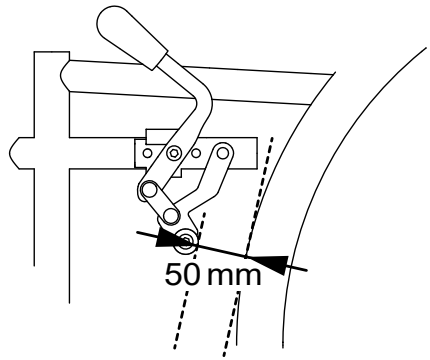
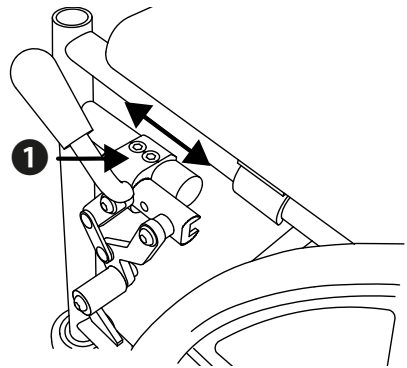

Fig.4
Fig.5
1. The distance between the brake pin and tyre casing must be 50 mm at the narrowest point when the brake is fully open (Fig. 4).
2. Make sure that the distance between the brake bolt and the tire cover is 50 mm (Fig. 4), when installing the brake fastening adapter (1, Fig. 5).
3. Subsequently, re-tighten the connection (1, Fig. 5) and repeat the steps on the other side for the second parking brake.
When using the optional height adapter, the distance between the brake bolt and the tire cover must also be 50 mm. To correct this, loosen the fastening adapter of the brake again and bring it into the correct position (1, Fig. 5).
Orientation marker: The red markings on the frame and on the brake include the fastening adapter of the brake (1, Fig. 5) on the right and left side, when standard mounting without the height adapter set. _____
1. Insert the back frame tubes from above into the rear tubes of the base frame (1, Fig. 5).